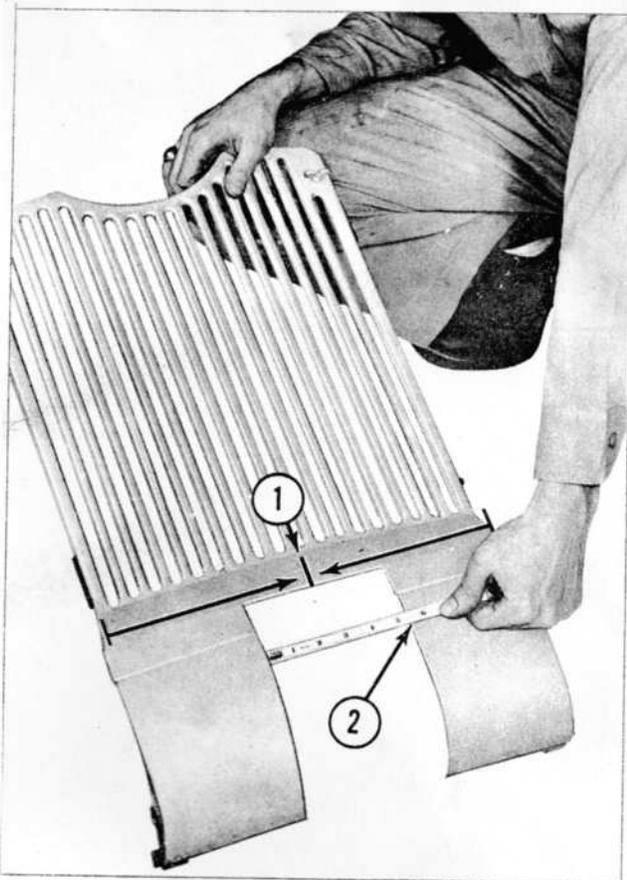

Figure 12
- a. Find the center line of the tractor radiator grille and mark as shown at (1), Figure 12.
- b. With a hacksaw, make two cuts $2\frac{5}{8}$ " from the center line and extending to the height 2" below the grille slots shown. Bend the metal back and forth, until it breaks off, then hammer the edge over to remove sharp edges. When the cut is completed, the opening should be $5\frac{1}{4}$ " wide as shown at (2), Figure 12.